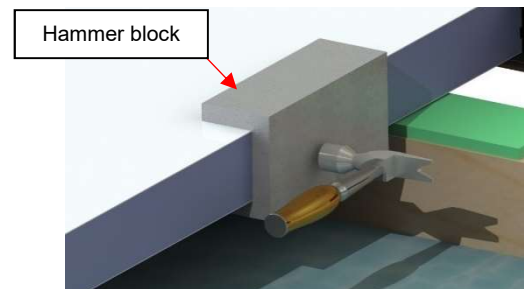

Figure 71
24) Use the hammer block to ensure the panel is fully engaged in the I-beam. Gently strike the **center** of the block and ensure the block is continuously in contact with the panel edge (Figure 71). Strike the hammer block on each side of the panel for a better fit on the I-beam (Figure 71).
- Ensure the hammer block is properly fitted to the foam panel before striking. Failure to use the hammer block properly could break the lamination of the fiberglass panel (Figure 71).
27) Use the hammer block to ensure the panel is fully engaged in the I-beam. Gently strike the **center** of the block and ensure the block is continuously in contact with the panel edge. (Figure 71) strike the hammer block on each side of the panel for a better fit on the I-beam.